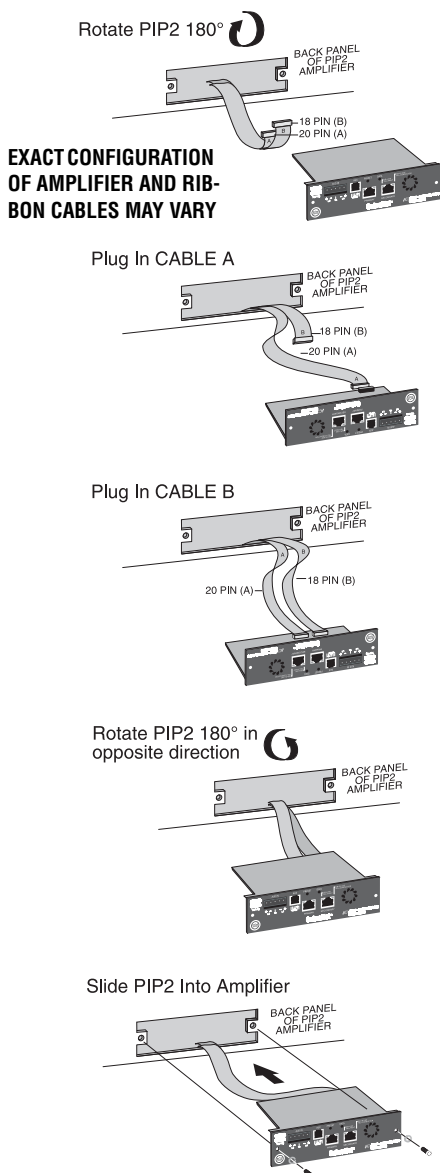

Figure 3.1 Installing the PIP into the Amplifier
1. Turn the PIP module upside down so the ribbon cable connectors located along the back edge on the underside of the module can be clearly seen (See Figure 3.1)
2. Attach the ribbon cables from the amplifier to the ribbon-cable connectors. The 20-pin cable (A) should connect to the connector closest to the corner and the 18 pin cable (B) should connect to the other connector.